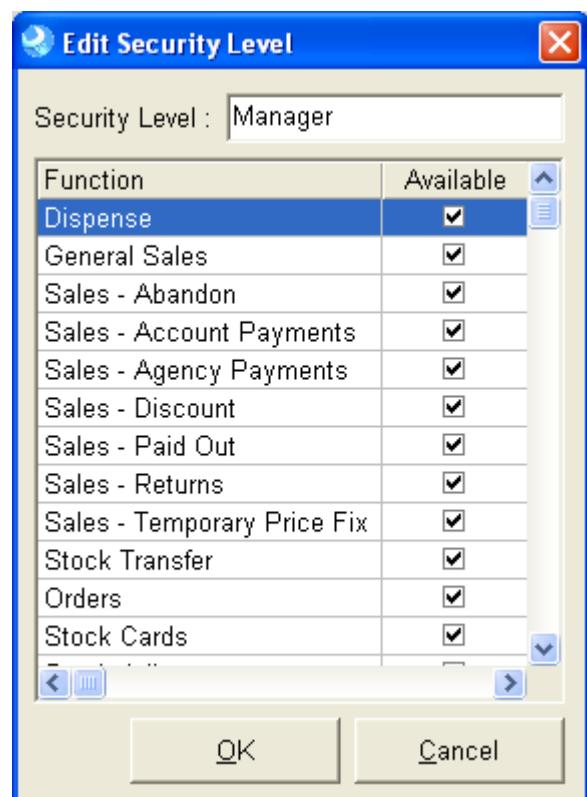

Figure 236
4. This will display 'Edit Security Level' window (see Figure 236).